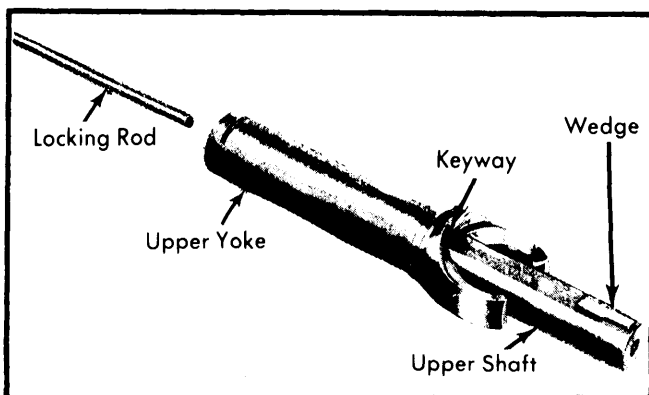

Fig. 6 Upper Shaft & Yoke
2) Install support by aligning "V" in support with notch in jacket. Install retaining screws. Install lower bearing, if removed, in lower end of shift tube. Locate about $\frac{3}{16}$ " inside tube (use suitable lubricant to ease installation). On Tilt-A-Scope columns only, install upper steering shaft, locking wedge, and locking rod in yoke. See Fig. 6. On all columns, install centering spheres and anti-lash spring in upper steering shaft. Install lower steering shaft from same side of spheres that spring ends protrude.